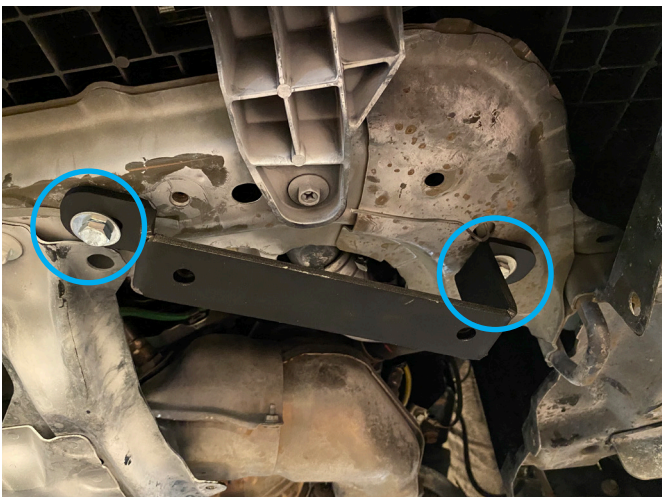

Fig.7
6. Install left bracket (Item. 3) to previously installed insert nuts (Items. D,E) using M8x25 bolts and M8 washers (Items. A,B) as shown in Fig. 7.